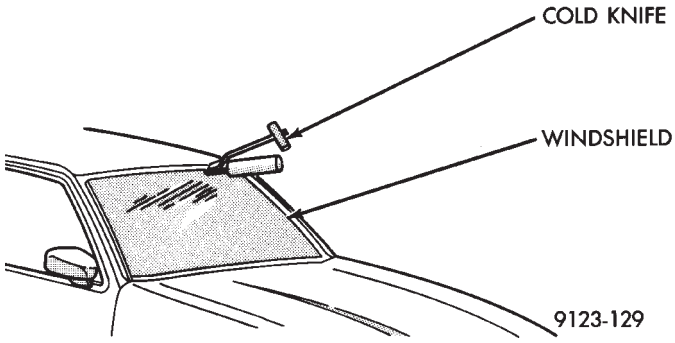

Fig. 1 Cut Urethane Around Windshield
- (1) Open convertible top.
- (2) Remove header/A-pillar weatherstrip from weatherstrip retainers.
- (3) Remove A-pillar weatherstrip retainer and molding.
- (4) Remove header weatherstrip/molding.
- (5) Remove windshield wiper arms.
- (6) Remove cowl cover.
- (7) Place protective covers over instrument panel and hood.
- (8) Using a sharp cold knife, cut urethane adhesive holding the windshield to the A-pillars, header and cowl pinch weld fences (Fig. 1). A power cutting device can be used if available.
- (9) Separate windshield from vehicle.